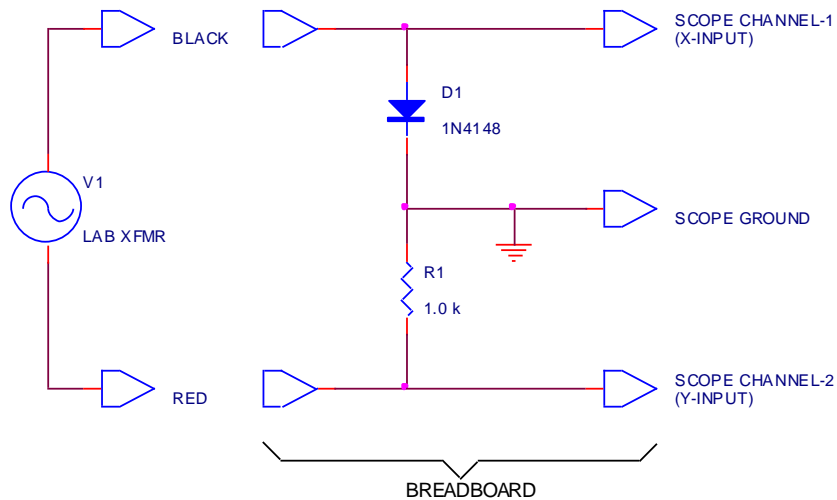

Figure E1.3
**Set-Up** Connect the circuit shown in Fig. E1.3 using the following components:
Plug the laboratory transformer into a 120 VAC receptacle, and turn its power switch OFF. Connect one lead from the black banana jack (+6.3 VAC) output of the lab transformer to the diode on the breadboard, and then connect another lead from the red banana jack (-6.3 VAC) output of the lab transformer to the resistor R1 on the breadboard as shown in Fig. E1.3. This will establish a 20 V peak, 60 Hz sinusoidal input to the circuit.